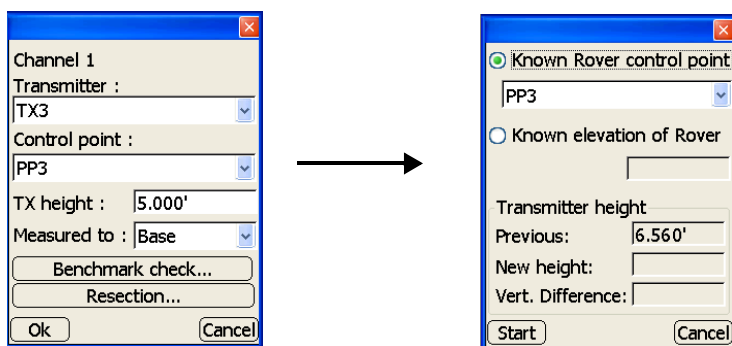

Figure 7-17. Begin Height Check
5. Press **Benchmark check** (Figure 7-17).
6. On the *transmitter height* dialog box, select one of the following and press **Start** to measure (Figure 7-17). During the measurement, the *Measuring* dialog box displays.